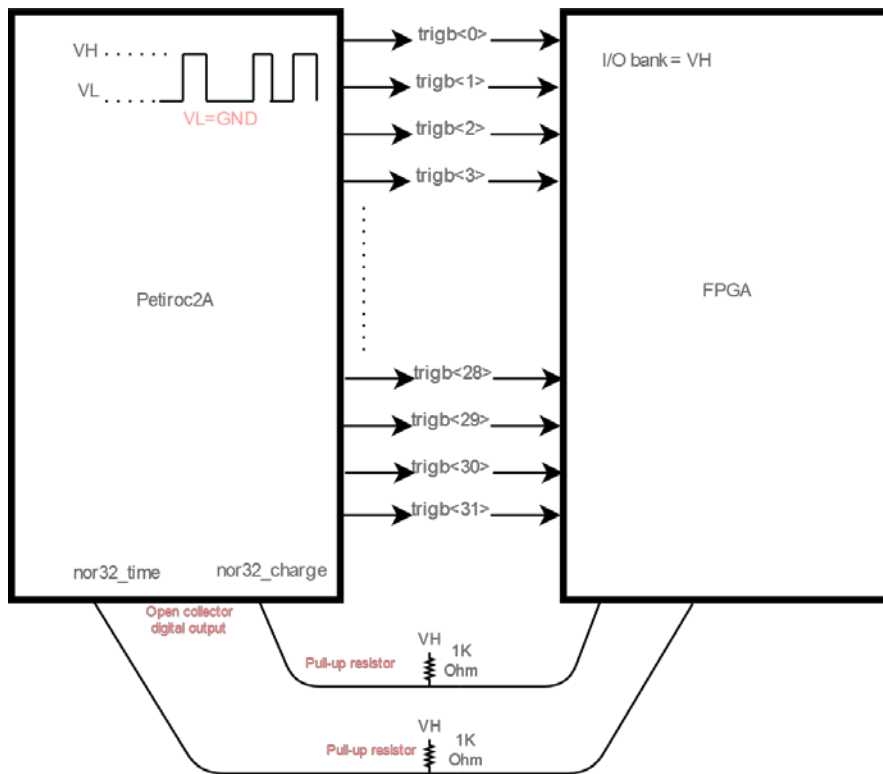

Figure 20 - Triggers and NOR32 connections to FPGA
The connections of the 32 triggers (Trigb <0:31>) and NOR outputs are shown in Figure 20. The output corresponds to the direct discriminator output or to the latched discriminator output depending on the value of the slow control parameter "LatchDiscri" (Bit #599 - Table 4). They are outed through an embedded output buffer. High level (One) and Low level (Zero) voltage value are set on system design with driver power pins VHigh (VH) and VLow (VL). No external component is required. It is strongly recommended to always set Vlow(VL) to ground.